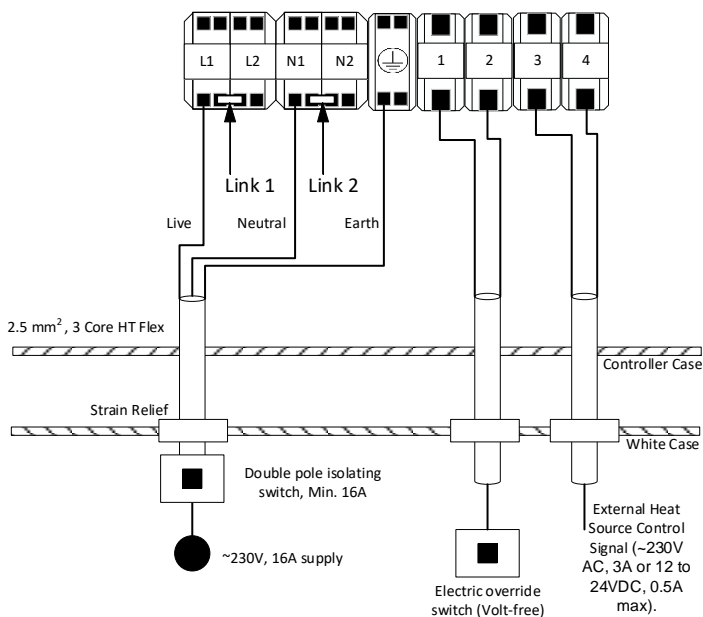

Figure 12.2: HW +i system wiring
- Wire a 2 core PVC insulated cable (minimum 0.75mm² CSA, 24 x 0.2mm according to BS 6500) from a 2-pole Volt-free contact switch, run the wire into the appliance via the appliance case cabling grommets and then into the control box housing through the hole available. Secure the cables in Terminal T1 & T2 independently (Figure 12.2).
- Wire a 2 core PVC insulated cable (minimum 0.75mm² CSA, 24 x 0.2mm according to BS 6500), the heat battery controller in this application acts as hot water thermostat. The cable will act as a hot water heating control signal from the heat battery controller terminals T3 & T4 into the appropriate terminals of the heating system wiring centre (please refer to External heat source manual). Please run the wire into the heat battery appliance via the appliance case cabling grommets and then into the control box housing through the hole available. Secure the cables in Terminals T3 & T4 independently (Figure 12.2). The control signal load must be no greater than (~230V AC, 3A or 12 to 24VDC, 0.5A max).